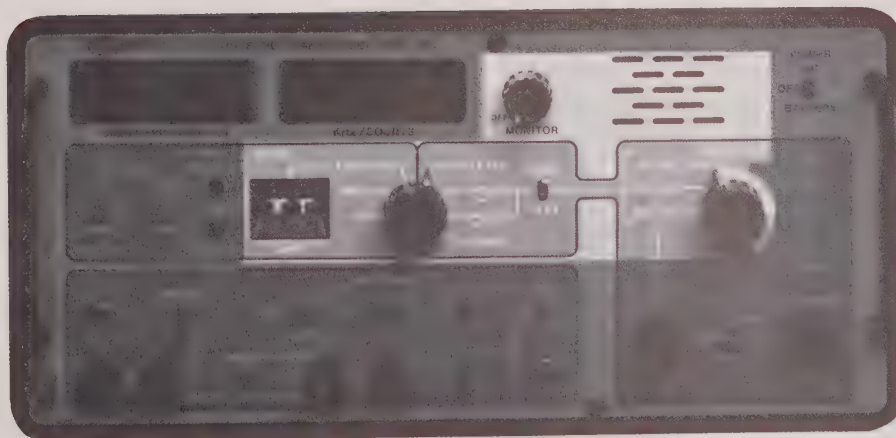

Figure 10. Monitor
9.01 This section describes the operation of the Model 43-01 audio monitor. Refer to Figure 10.